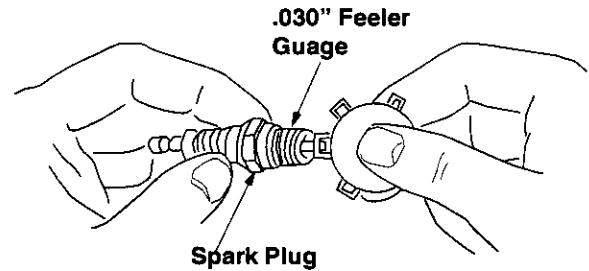

Figure 16
- Clean the spark plug and reset the gap to .030" at least once a season or every 50 hours of operation. See figure 16. Spark plug replacement is recommended at the start of each season. Refer to engine parts list for correct spark plug type.